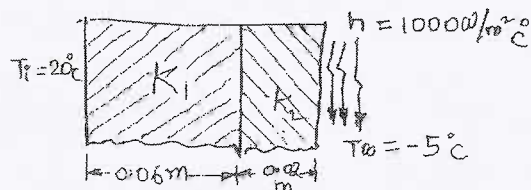

Fig.Q7(b)
b. Determine the temperature distribution through composite wall shown in Fig.Q7(b) when the convective heat loss occurs on the right surface. Take  $K_1 = 6 \text{ W/m}^\circ\text{C}$  and  $K_2 = 20 \text{ W/m}^\circ\text{C}$ . (10 Marks)